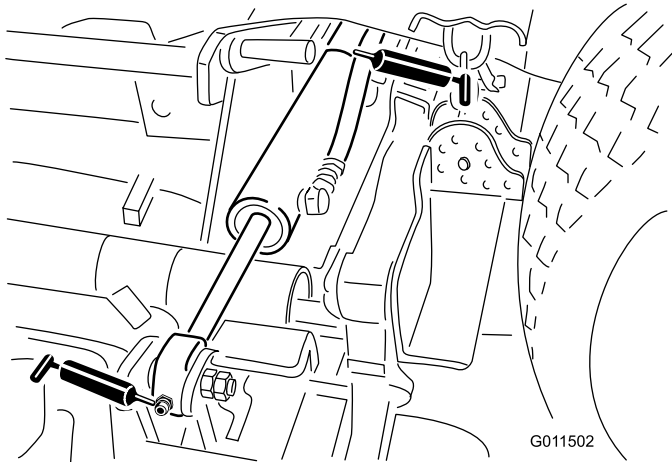

Figure 44
Wing lift cylinder (4) (Figure 44)